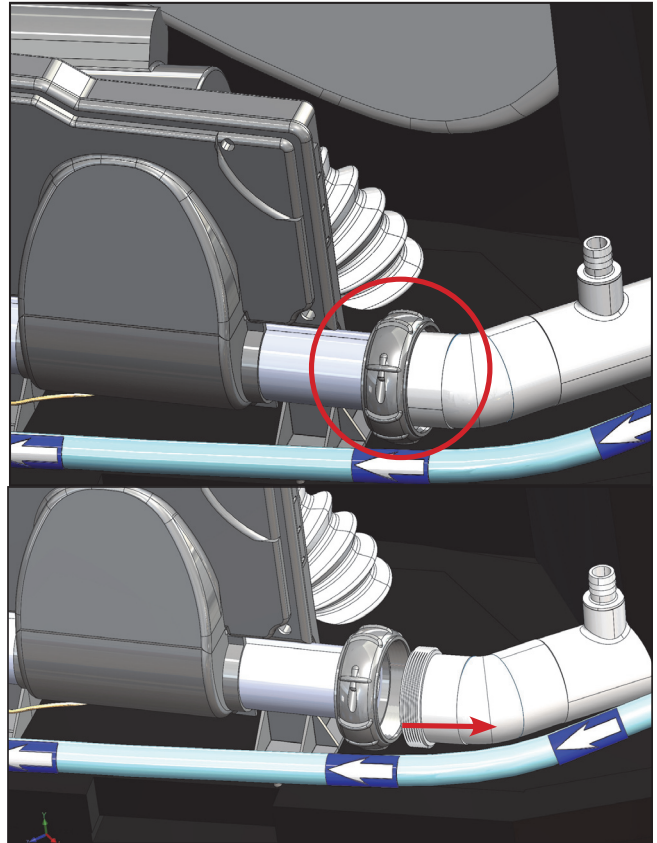

Figure 3.2
3. Locate the split nut that connects the heater to the 2" heater discharge line (Figure 3.2).
4. Loosen split nut and remove the 2" heater discharge line (Figure 3.2).